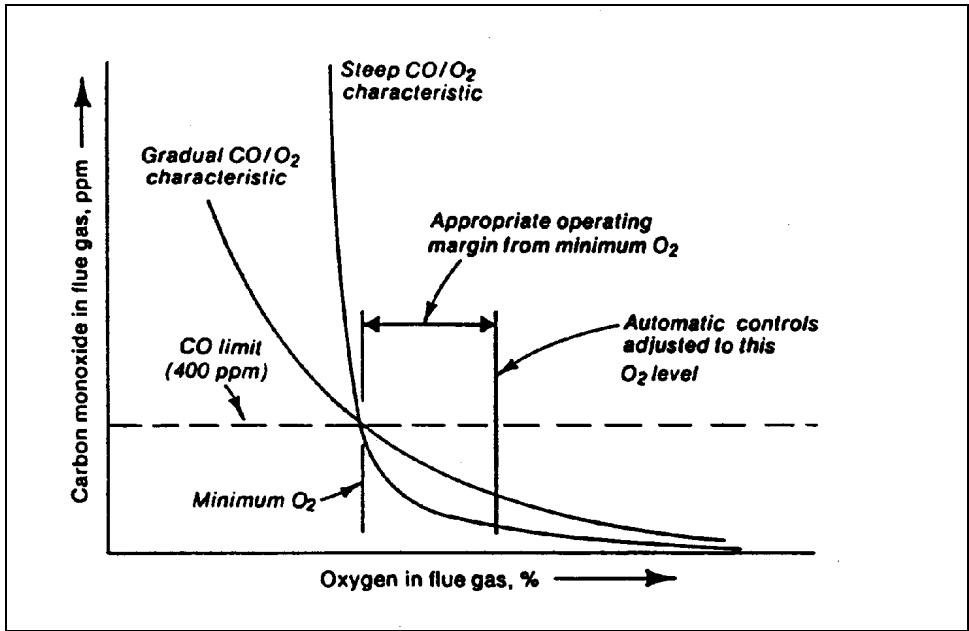

Figure 1 Oxygen/CO Characteristic Curve
6. Develop an O2/CO curve (for gaseous fuels) or O2/smoke curve (for liquid fuels) similar to those shown in Figures 1 and 2 using the excess oxygen and CO or smoke-spot number data obtained at each combustion air flow setting.